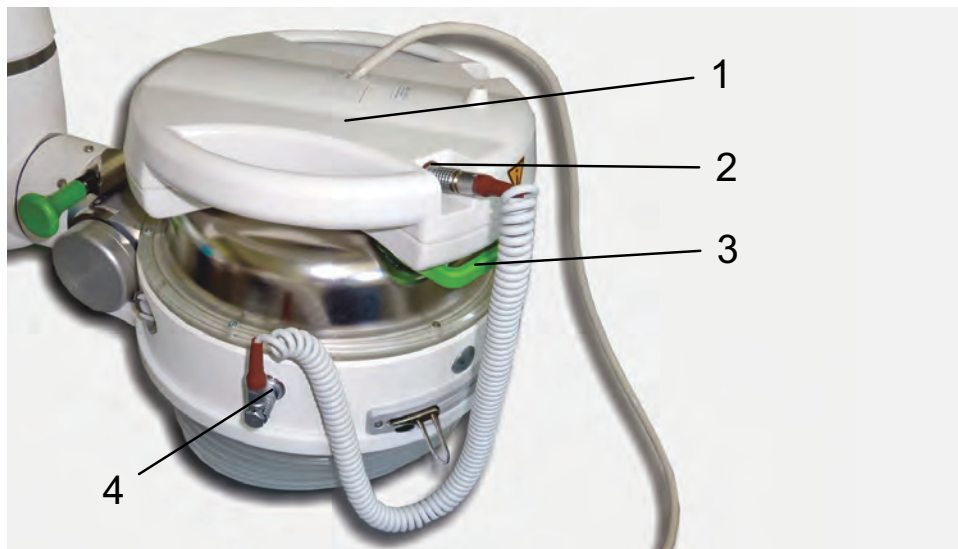

Fig. 12-8 In-line unit connected to therapy head in 0° OT
- Connect the spiral cable with the angled plug to the female connector on the side of the therapy head (**FIG. 12-8 /4**), and connect the other end of the cable with the straight plug to the brown connector on the housing of the in-line unit (**FIG. 12-8 /2**).